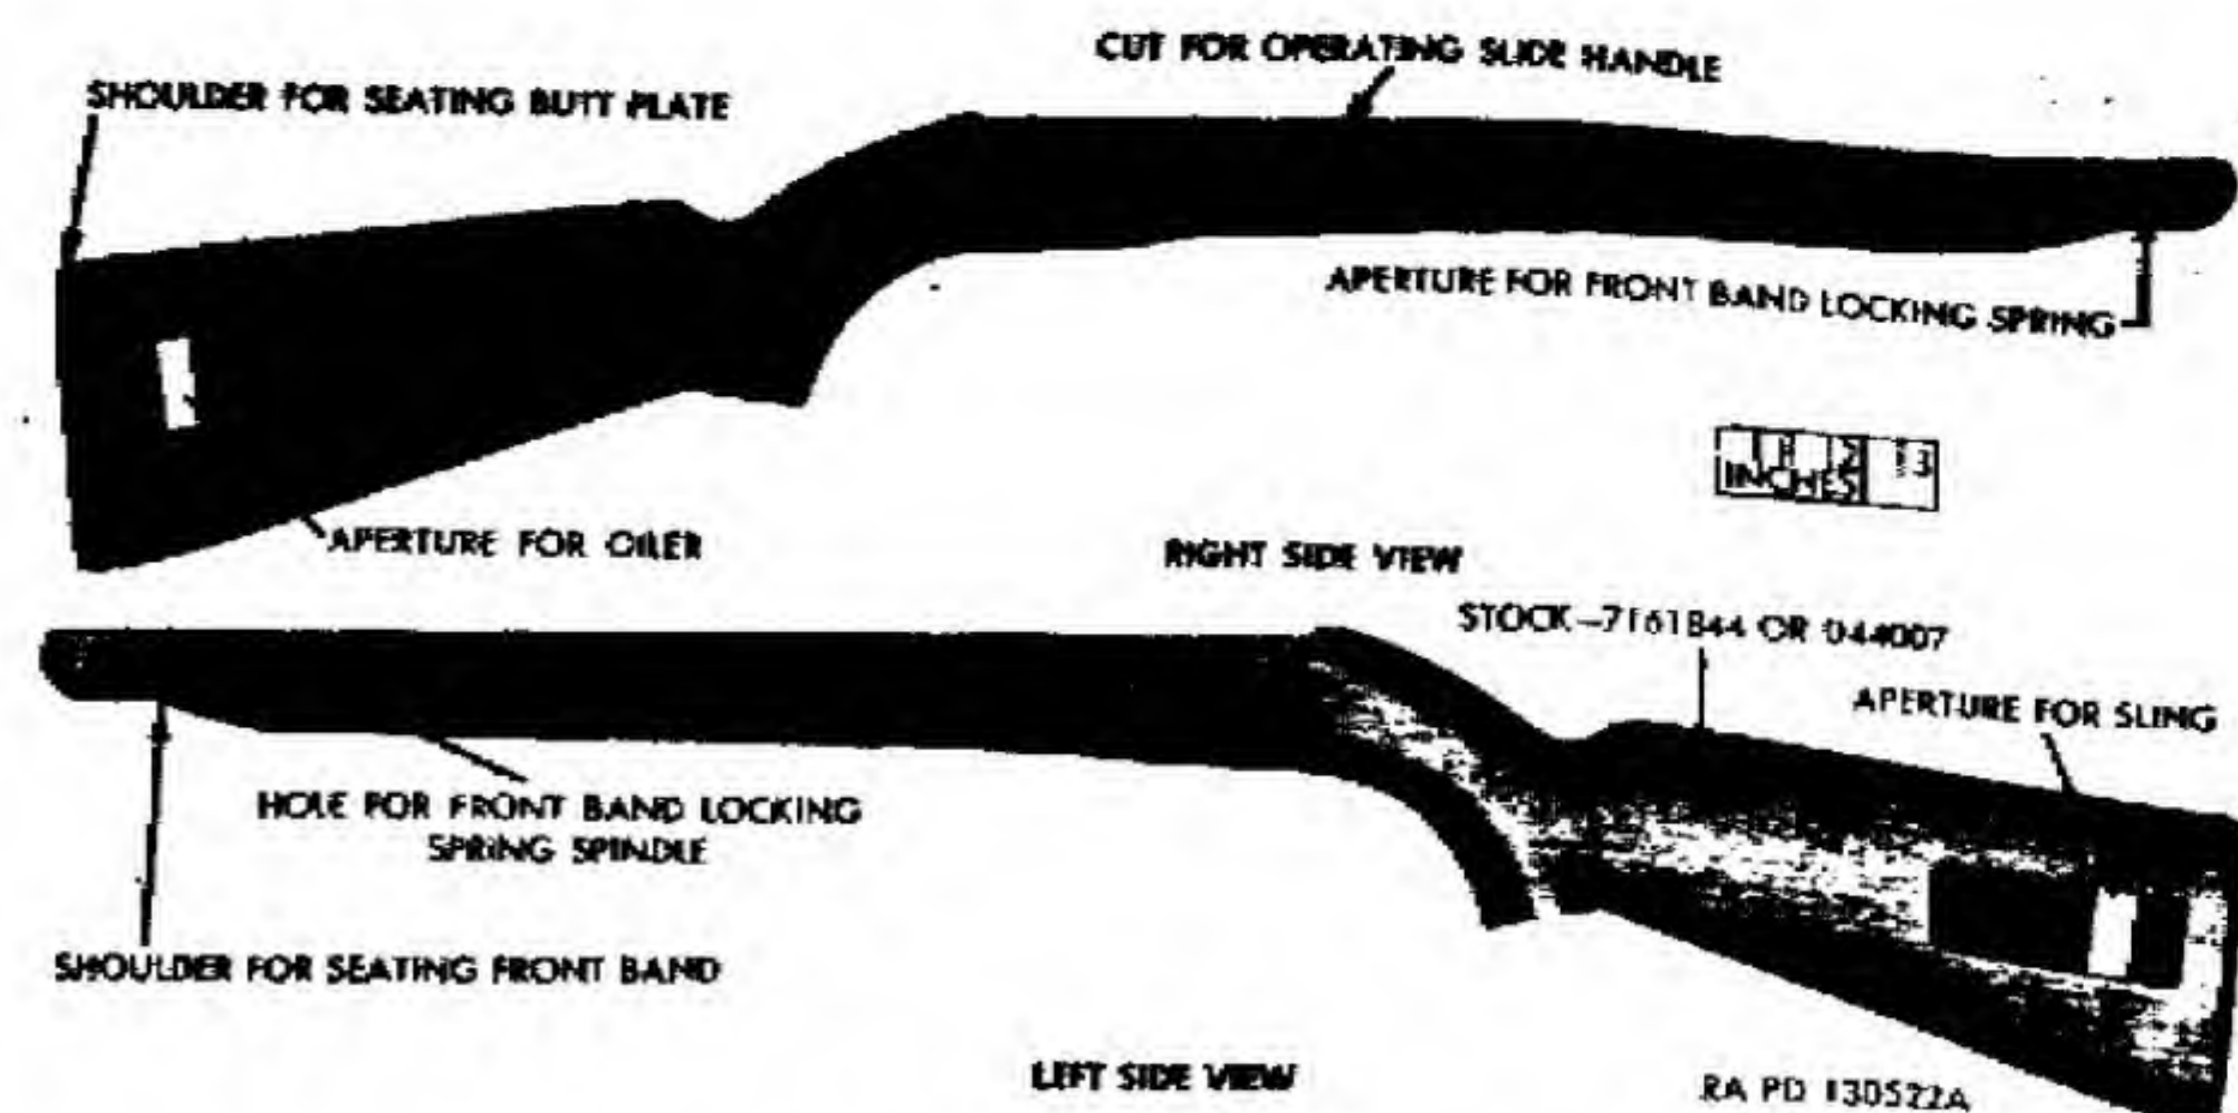

Figure 96. Stock showing apertures—carbine M1.
*a. Stock.* Inspect stock for cracks, scoring, chipping, blemishes, and excessive dryness. Inspect cuts and apertures (fig. 96) for chipping and burrs, for wear due to interference with moving parts, and for excessive friction in assembling.
- (1) Inspect butt plate for deformation, burrs, fit, and looseness on stock. Check butt plate screw for looseness and check threads in stock for stripping. The butt plate screw must fit firmly in stock.
- (2) Protrusion of butt plate beyond edge of stock is acceptable in rebuilt weapons unless more than approximately one-half of the thickness of the metal extends beyond the edge of the
- (c) Point on right side of stock and hand guard where operating slide bar passes through to right side of receiver (fig. 96).